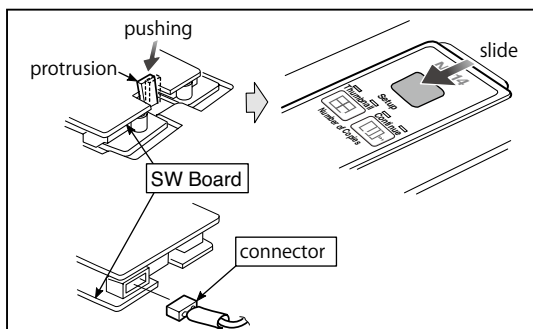

Fig.14
1. Remove the SW Panel shown in the figure 14.